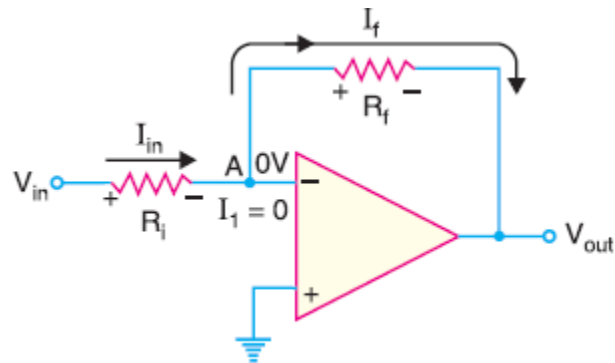

Fig. 5
An operational amplifier can be operated as an *inverting amplifier* as shown in Fig. 5. An input signal  $v_{in}$  is applied through input resistor  $R_i$  to the inverting input. The output is fed back to the same inverting input through feedback resistor  $R_f$ . The non-inverting input is grounded. We should note that the resistor  $R_f$  provides the negative feedback. Since the input signal is applied to the inverting input ( $-$ ), the output will be inverted (i.e.  $180^\circ$  out of phase) as compared to the input. Hence the name inverting amplifier.
**Voltage gain.** An Op-amp has an infinite input impedance. This means that there is zero current at the inverting input. If there is zero current through the input impedance, then there must be no voltage drop between the inverting and non-inverting inputs. This means that voltage at the inverting input ( $-$ ) is zero (at point A) because the other input ( $+$ ) is grounded. The 0 V at the inverting input terminal (point A) is popularly referred to as *virtual ground*. This condition is illustrated in Fig. 5. The point A is said to be at virtual ground because it is at 0V (i.e.  $V_A = 0 \text{ V}$ ), but is not physically connected to the ground.